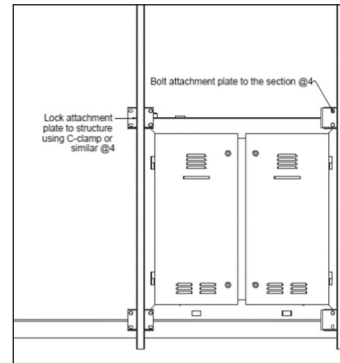

Figure 6: First Section Installation
- Attach the attachment plates with bolts, and use a C-clamp to lock plates to structure. Repeat for all corners. Refer to **Figure 6**.